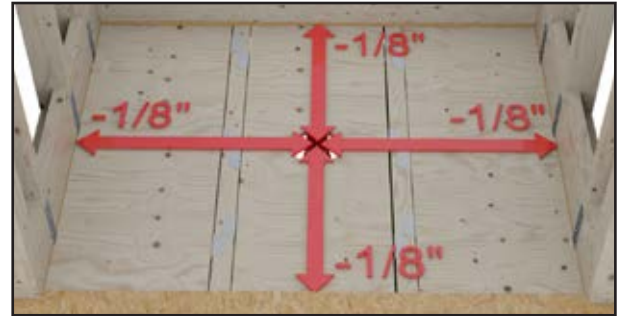

Fig. 2
2. Deduct 1/8" on all sides (Fig. 2) to allow for shim space and position the Shower Pan into place. The Foam Packaging Ring protecting the Drain Hub may be inserted into the Pan Collar to assist indexing the center of the opening for pulling your measurements.